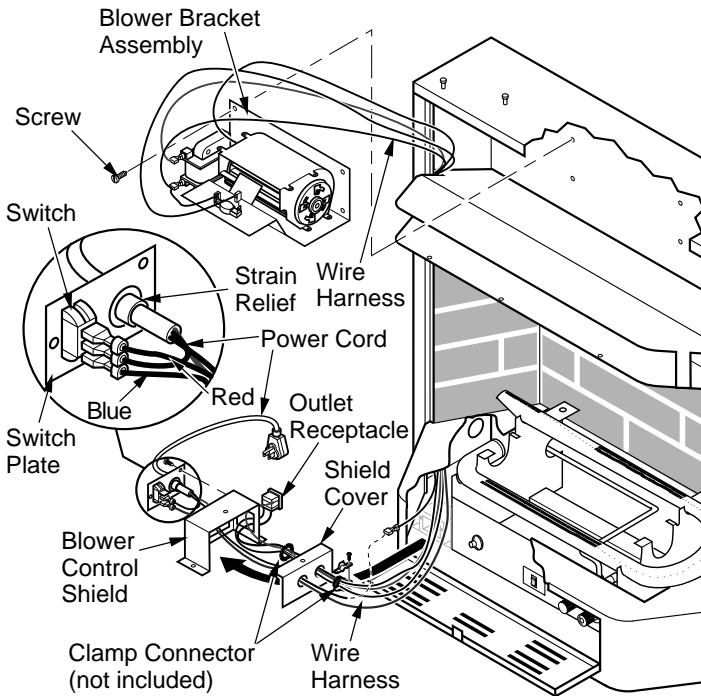

Figure 18 - Installing Blower Bracket Assembly
3. Remove black plastic strain relief and power cord from switch plate (see Figure 18, page 12). The power cord supplied will not be used in built-in installations. Pop in the plastic snap bushing found in hardware kit into the hole left by supply cord/strain relief.